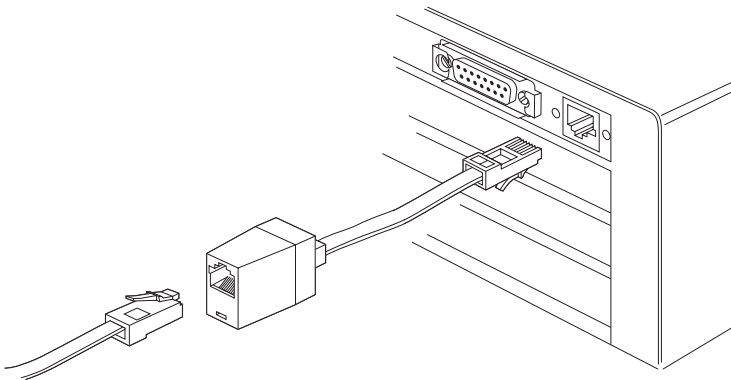

Figure 1-8 Using the 10BaseT Crossover To Connect To A PC.
- 2 Connect the crossover cable to the 10BaseT socket on the workstation's Ethernet adapter as shown in Figure 1-8.